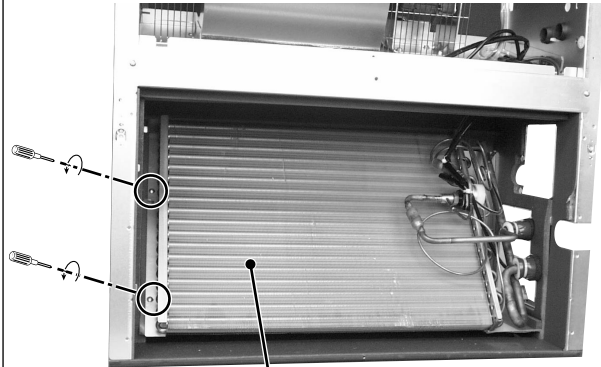
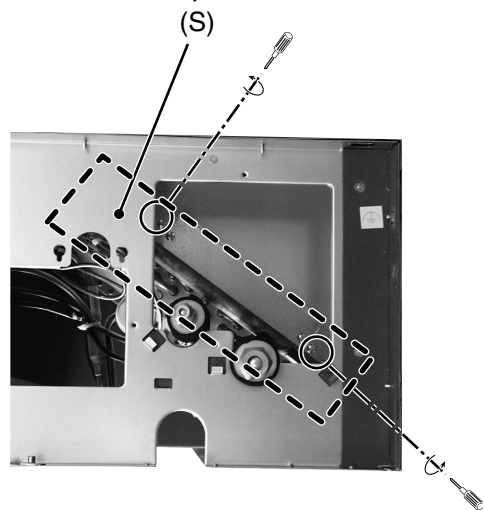

Fig.1
Fig.2
1.Removing the control box cover (1)Remove the fixing screws(two) of the cover(A) and remove the cover.	 Fig.1
1.Removing the cover (1)Remove the fixing screws(two) of the cover(C) and remove the cover. 2.Removing the thermistor (1)Remove the thermistor(D), from the thermistor holder(E), which are installed on the copper tube.	 Fig.1  Fig.2
1.Removing the thermistor and thermistor holder (1)Pull out the thermistor holder(F) and thermistor (G) which are fixed the control box.	 Fig.1
1.Removing the cover (1)Remove the fixing screws of the cover(H) and remove the cover. 2.Removing the drainpan (1)Pull and remove the drainpan in the direction of the arrow ① and ② alternatively.	 Fig.1 Fig.2
1.Removing the cover (1)Remove the fixing screw of the cover(J) and remove the cover. 2.Removing the thermistor (1)Remove the thermistor(K), from the thermistor holder(L), which are installed on the copper tube.	 (J) Fig.1  (K),(L) Fig.2
1.Removing the filter (1)Press the tabs of the filter and remove the filter in the direction of the arrow ①. 2.Removing the bottom plate (1)Remove the fixing screws (two) of the bottom plate(N) and remove the plate. 3.Removing the cable (1)Remove the cable(P) threw the rubber bush. 4.Sliding the fan section (1)Remove the fixing screws(two) of the fan base plate. (2)Pull up the fan section(Q) in direction of the arrow ② and slide the direction of the arrow ③. 5.Removing fan casing and sirroco fan (1)Remove the fixing screws (four) of the fan casing(R). (2)Remove the fan motor shaft fixing screw and remove the fan casing(R) and sirroco fan. 6.Removing the fan motor (1)Remove the condensor cable (in case of Model:PDFY-P36,P48NMU-E) (2)Remove the fixing screws of the motor fixtures (two) and remove the motor. Notice:Incase of the Model(PDFY-P15~P48NMU-E) stick out the motor shafts on both side of the motor.	 Fig.1  Fig.2  Fig.3